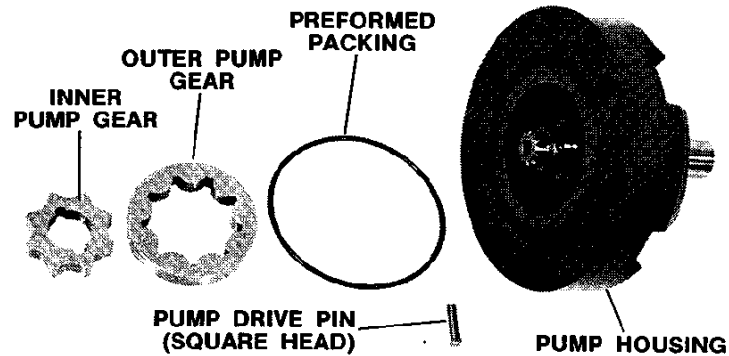

Figure 2-4. Pump Housing Assembly
See Figure 2-4. Use the following procedure:
1. See Figures 2-4 and 2-5.